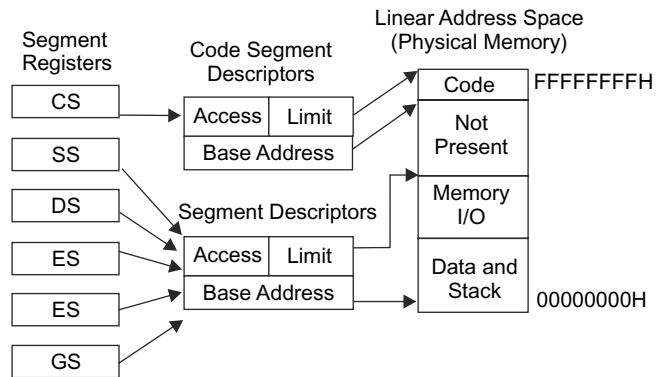

Fig. 12.15 Protected flat model
Figure 12.15 shows the protected flat memory model for a system. The protected flat model is just like the basic flat model, except the segment limits are set to include only the range of addresses for which physical memory actually exists. The general-protection exception, \overline{GP} (#GP) is generated when any attempt has been taken to access non-existent memory. This model provides a minimum level of hardware protection against program bugs. If the protected flat model is combined with the paging mechanism, a higher level of protection can be achieved. Usually, Network Technology (NT) uses this technique to get a high level of protection.